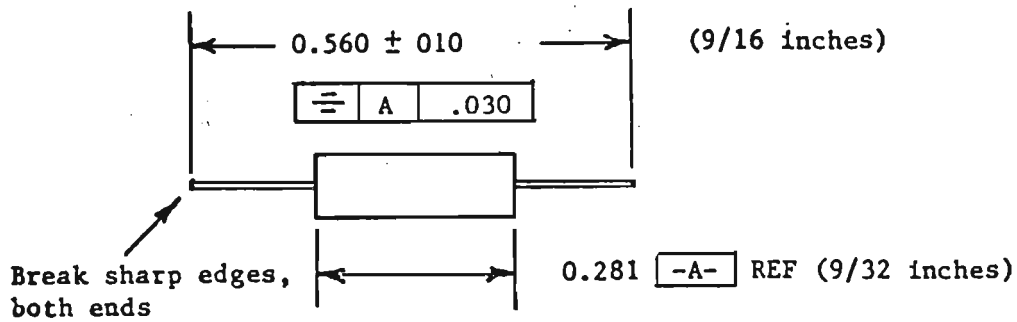

Figure 4-2. RF Fuse Element Details
- d. Insert a new fuse element and reassemble, using the reverse procedure. Be sure the fuse element leads are in line, symmetrical with the body, and are of the proper length, see Figure 4-2.